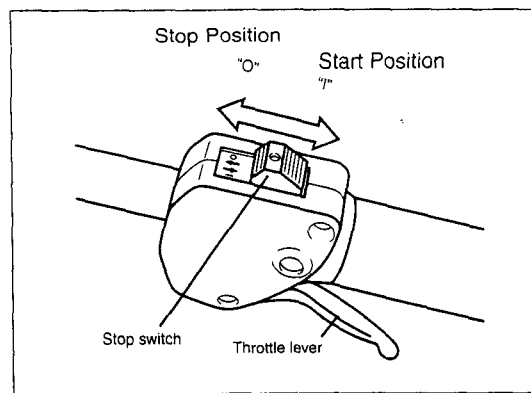

Fig. 5
1. Slide the stop switch away from the "STOP" position (Fig. 5).